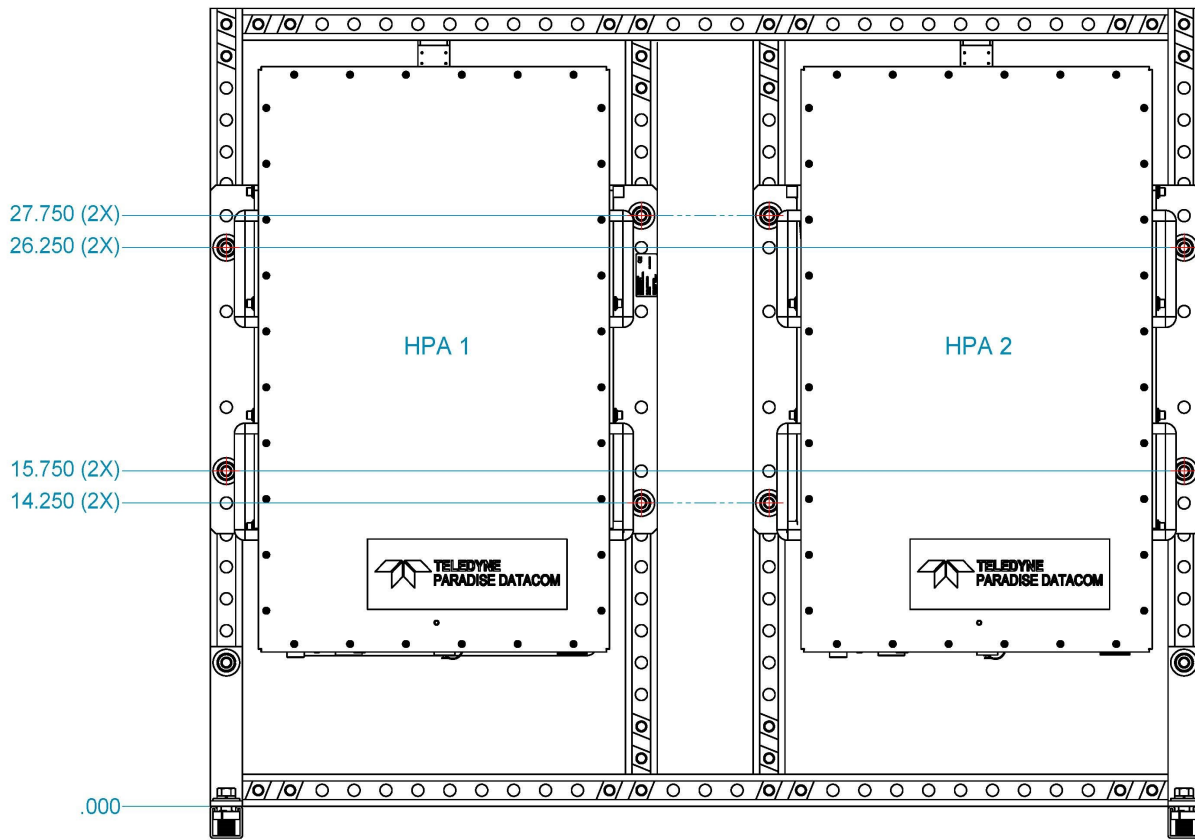

Figure 1-4: Mount HPAs to Frame
The HPAs will be mounted to the open channel side of the uni-strut frame. Mounting hardware is provided with the amplifiers. See **Figure 1-4**.
1. Insert a 1/2-13x2.75 hex bolt with 1/2" flat washer through the flat side of the uni-strut frame at the positions shown in **Figure 1-4** and through the mounting bracket of the HPAs.